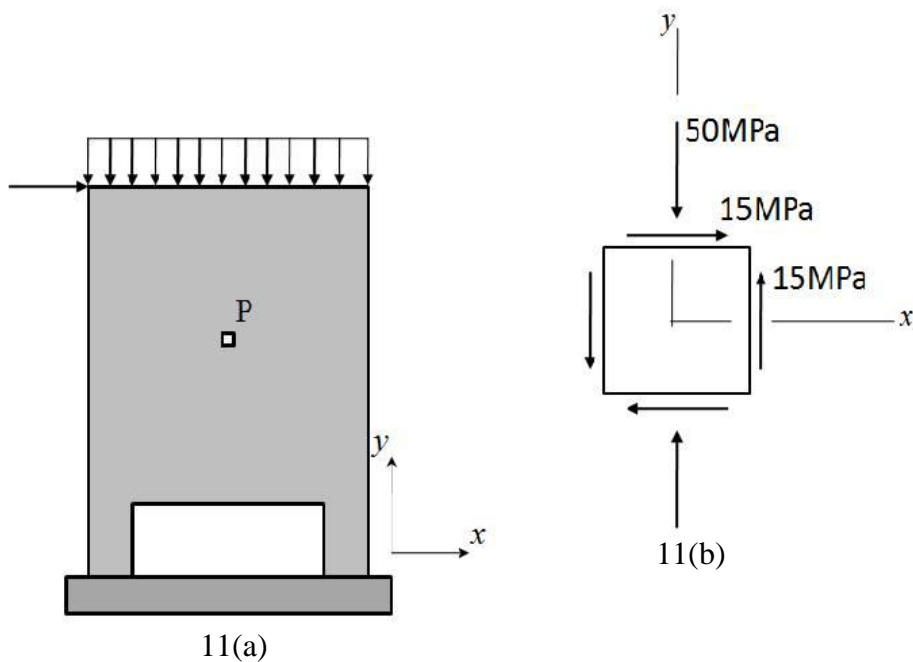

Figure 11
7. (a) Point P in a wall structure as shown in Figure 11(a) is under a state of stress as shown in Figure 11(b). For the given state of stress,